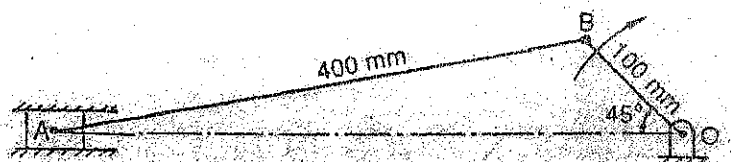

FIGURE-6.
(iii) Locate all the **instantaneous centres** of the slider crank mechanism as shown in **FIGURE-6**, the length of the **crank OB** and connecting rod **AB** are **100mm** and **400mm** respectively. Find: (I) **velocity of the slider A**; (II) **angular velocity of the connecting rod AB**. (5+5=10)